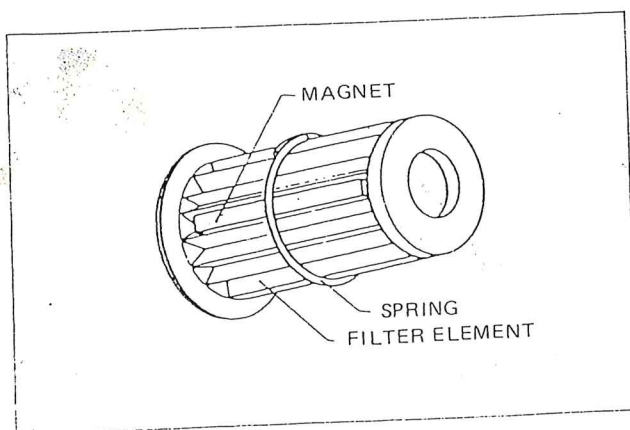

Figure 48 — Filter Element
2. There are 3 magnets and a spring on the rim of the filter element (Figure 48). Remove the spring and magnets, and wipe off all dust adhering to the magnets with a soft cloth.